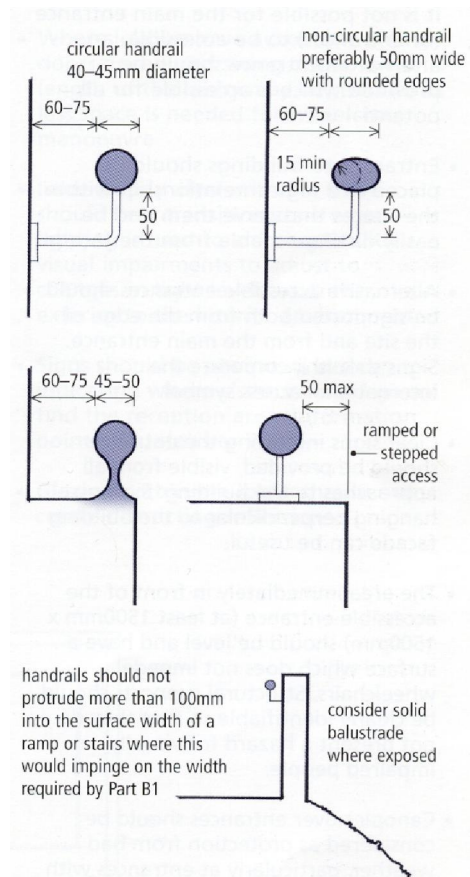

Figure 19
- Handrail profiles and dimensions can be seen in Figure 19. They should be easy to grip and provide good forearm support for those unable to grip. They should also be configured with a positive end to reduce the risk of catching clothing and other such items at the ends of the handrails.